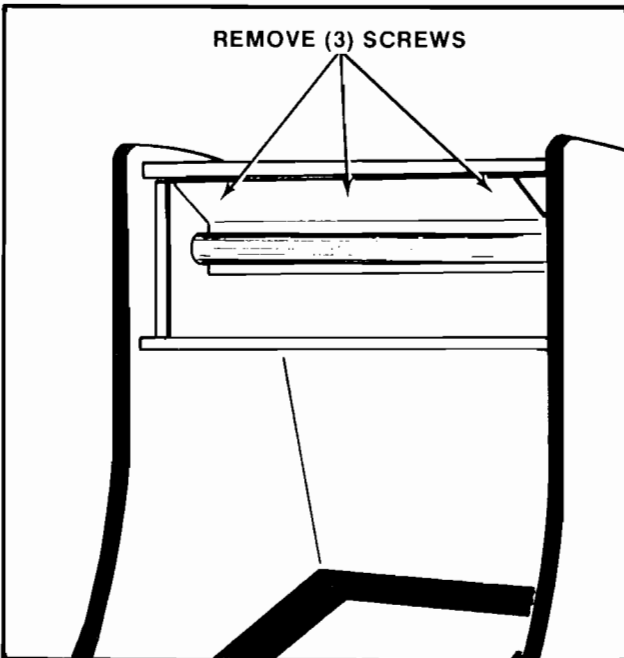

Figure 3-8 Replacing Fluorescent Tube Mounting Bracket
- Replacement of the fluorescent tube mounting bracket assembly. See Figure 3-8.